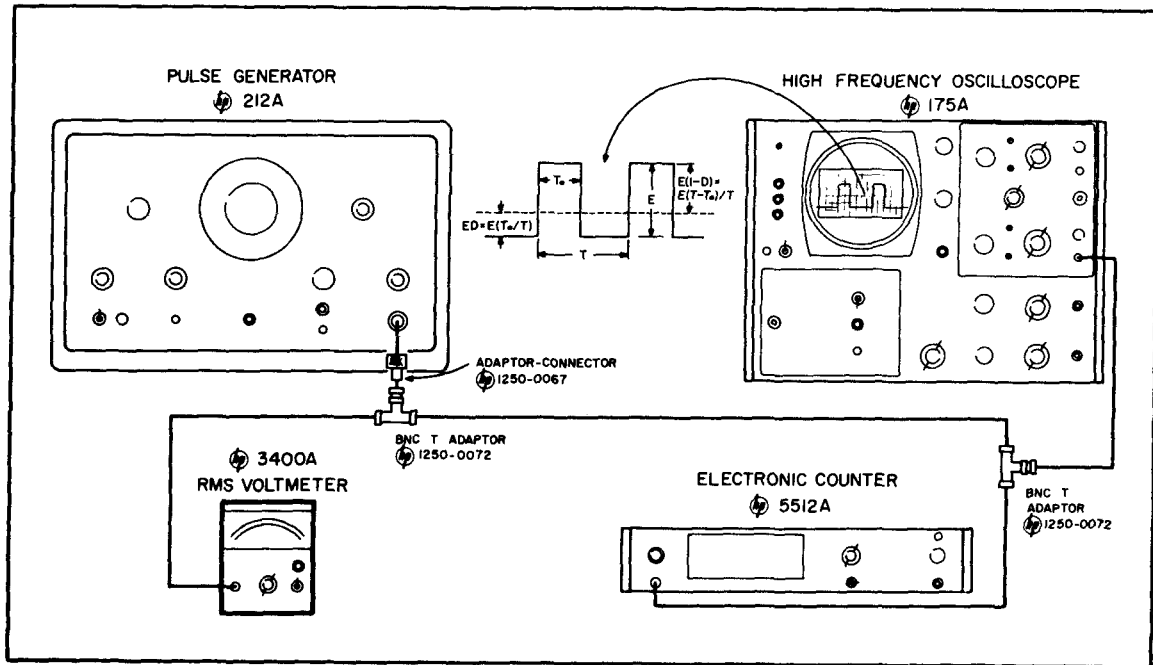

Figure 5-3. Crest Factor Test Setup
5-14. The crest factor performance check test setup is illustrated in Figure 5-3. A Pulse Generator (Model 212A), a High Frequency Oscilloscope (Model 175A/1750B), and an Electronic Counter (Model 5512A) are required for this test.
- a. Connect test setup illustrated in Figure 5-3.